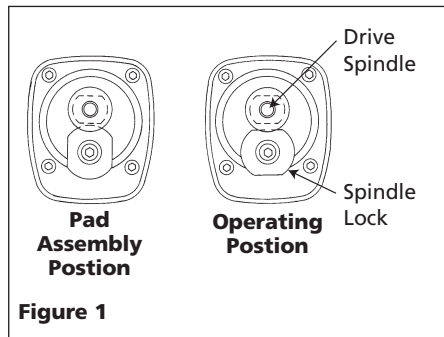

Figure 1
1. Lock the drive spindle in place before attaching the sanding pad. Rotate the spindle lock until the spindle lock engages with the drive spindle and hand-tighten the sanding pad in a clockwise direction (See Figure 1).